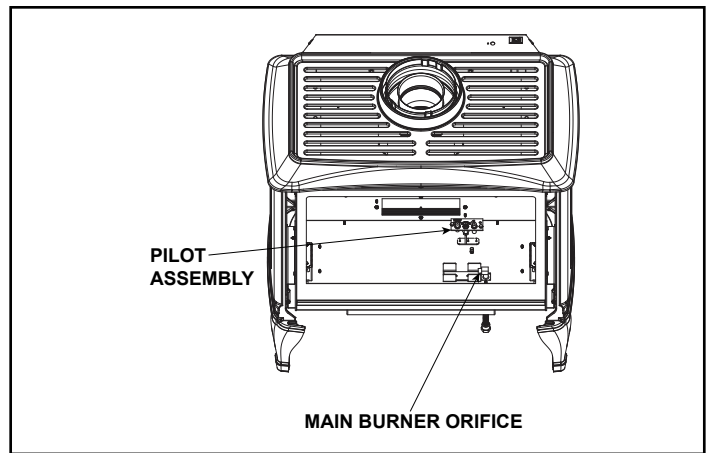

Figure 6.13
15. Using the 3/8 in. open end wrench, replace the main burner orifice with the orifice included in the conversion kit. Use appropriate orifice for gas type. See Figure 6.13.